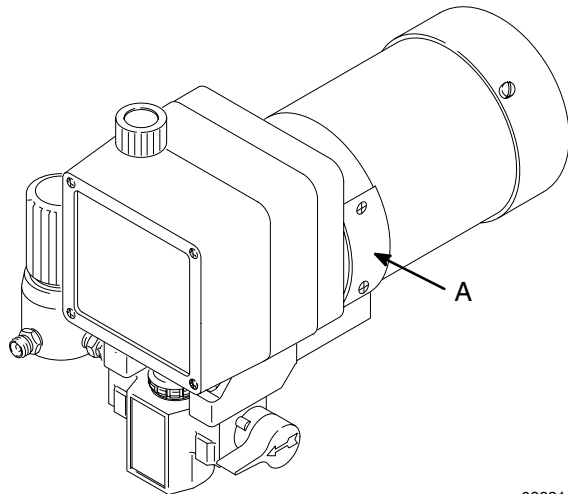

Fig. 14
1. Remove both inspection covers (A) and their gaskets. See Fig 14.